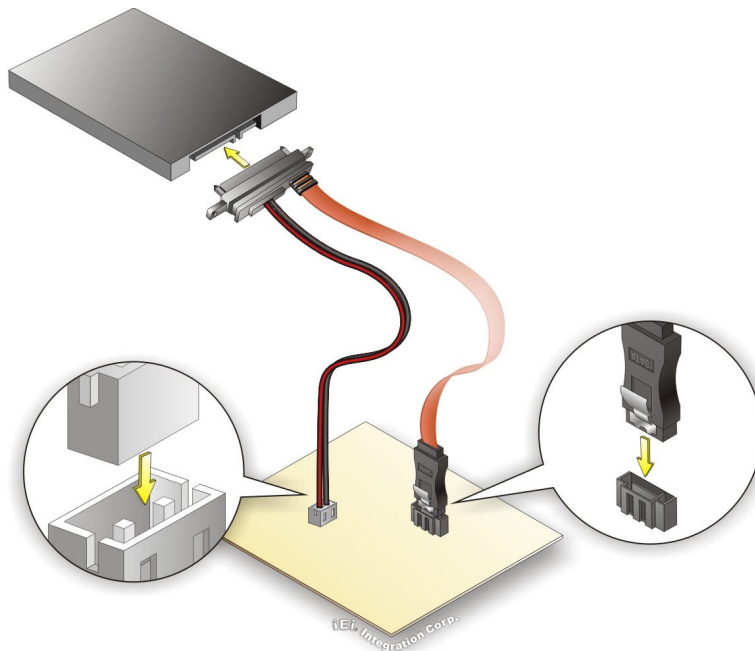

Figure 4-18: SATA Drive Cable Connection
Step 2: **Insert the cable connector.** Insert the cable connector into the on-board SATA drive connector and the SATA power connector. See **Figure 4-18**.
Step 3: Connect the cable to the SATA disk. Connect the connector on the other end of the cable to the connector at the back of the SATA drive. See **Figure 4-18**.